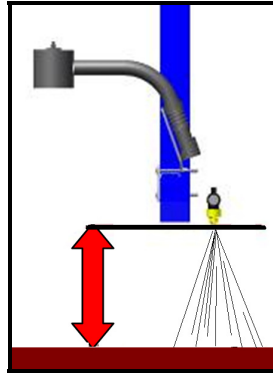

Figure 8: Measurement for Calibrating the Sensor Height
- Using a tape measure, measure the distance from the bottom of the spray nozzle to the ground (**Figure 8**) Use the spray nozzle closest to the sensor. Round this measurement to the nearest half-inch.